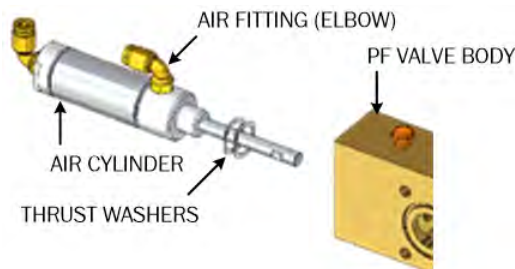

Figure 96. PF Air Cylinder R&R
- Remove air fitting (elbow closest to PF valve body). See Figure 96.
- Place thrust washers over air cylinder mounting threats. See Figure 96.